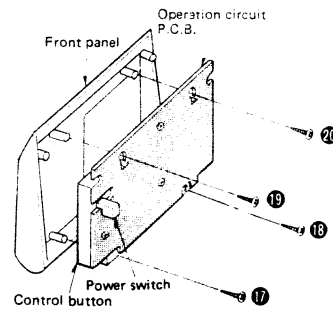

Fig. 4
2. Remove the 4 setscrews (Fig. 4 : ⑰ ~ ⑳) of the front panel to remove the panel.